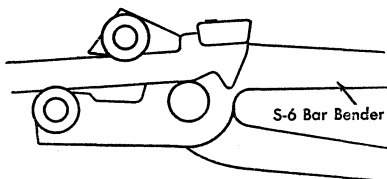
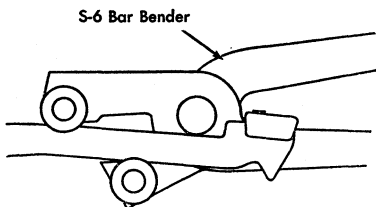

Figure 67. Moving Type Bar Off Ring
Figure 68. Moving Type Bar On Ring
and ring when the type bar is held up to the platen with the thumb against the type bar at the ring. Place the paper between the ribbon and the paper on the platen, and, holding the type bar as before, test for a slight drag as the strip of paper is withdrawn. If the ring and cylinder is out of adjustment, correction may be obtained by using the S-6 bar bender as shown in Figures 67 and 68. If no change in the elevation of the type face is desired, place the S-6 bar benders low on the type bar. Be careful not to burr the portion of the type bar which moves in the segment slot.
6. The type face can be raised or lowered to the writing line by using the S-6 bar benders. By placing a bend toward the platen, near the top of the bar, the type may be lowered (Figure 67).
A bend away from the platen, near the top of the bar, raises the type slightly (Figure 68). Keep in mind that a second bend may be necessary with the benders placed low on the type bar to regain the proper ring and cylinder adjustment. A type face may be lowered considerably, by forming the type bar twice with the S-6 bar bender. The first forming should be high and toward the platen (Figure 67), and the second should be low and away from the platen to regain proper ring and cylinder.